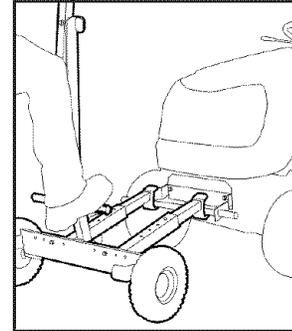

Figure 1.
- Ensure that claws at ends of lift tubes are securely hooked under the lift cross tube attached to tractor (Figure 1) or to the tractor bumper/brush guard (Figure 2.)